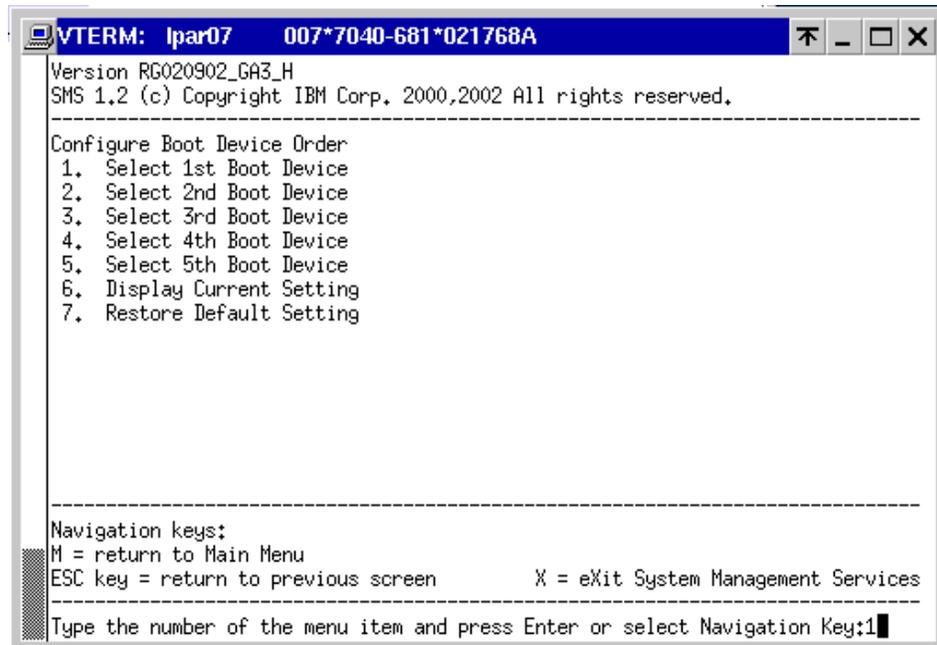

Figure 7-4 System Management Services: Configure boot device
11. Press 1 to select **1. Select 1st Boot Devices**, as shown in Figure 7-4.